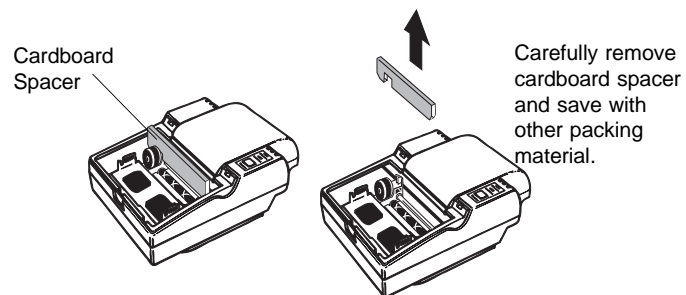

Figure 2. Removing the Protective Cardboard Spacer
1. With the shipping carton right side up, open the carton's lid and remove its contents. You should have the components shown in Figure 2 on the next page.